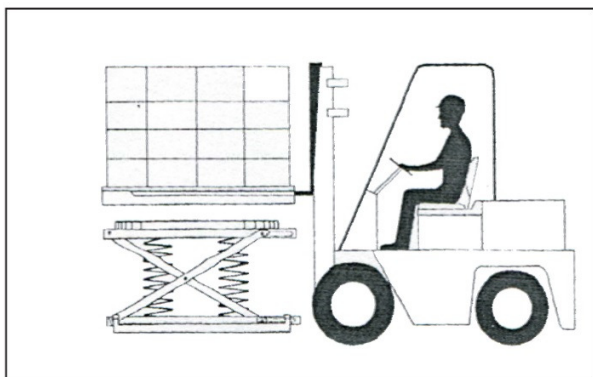

Figure 11. Unloading with a forklift.
1. Insert the forks fully into the pallet, and lift the pallet straight up and clear of the top of the unit. See Figure 11.